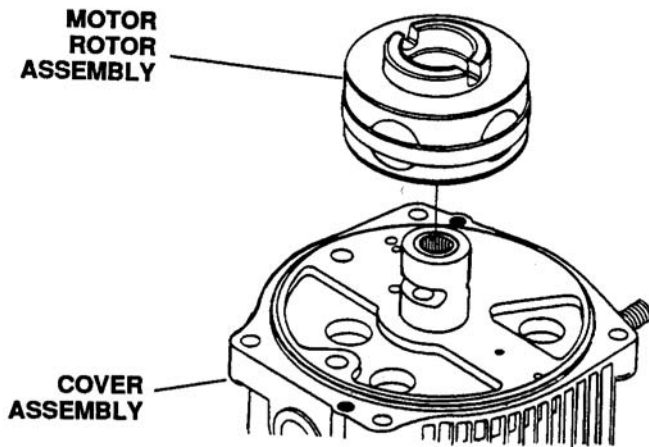

Figure 6-85. Removing Motor Rotor Assembly
4. Hold the pintle assembly in position against the cover and remove the motor rotor assembly intact. See Figure 6-85.